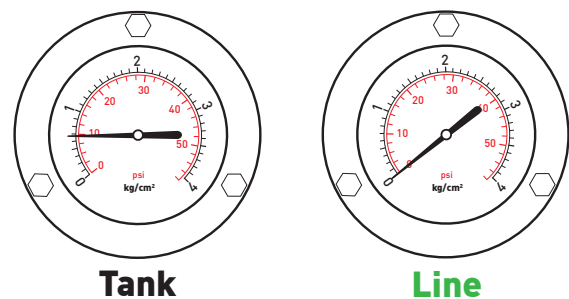

FIGURE 5. PRESSURE GAUGE POSITIONS WHILE AERATING THE PRODUCT
- 4.3.3 Allow the tank to start pressurizing (Figure 5). Do not allow pressure to go above 15 psi.